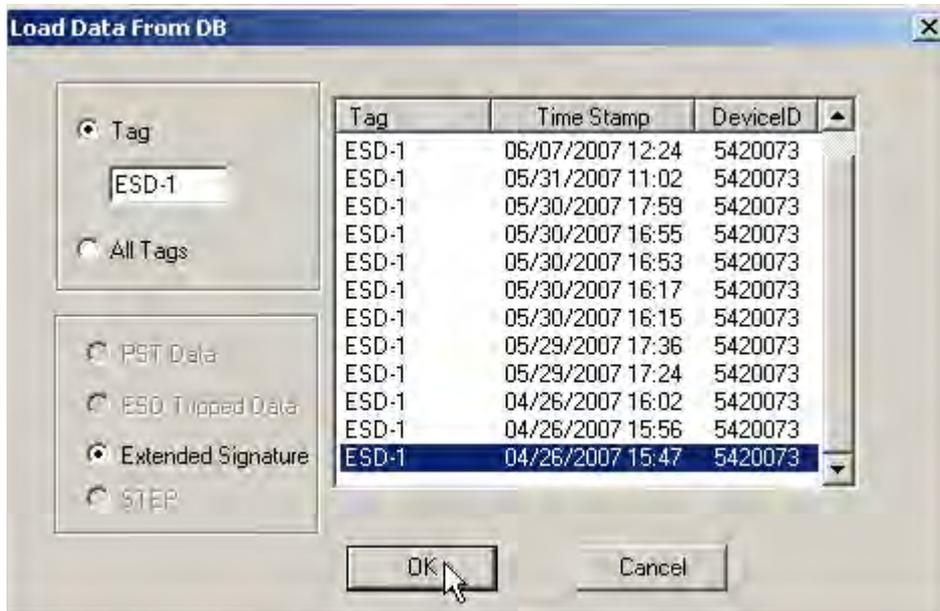

Figure 214 Loading Extended Signature Data
3. Scroll through the list of data files until you locate the file with the appropriate time stamp and click **OK** (Figure 214).